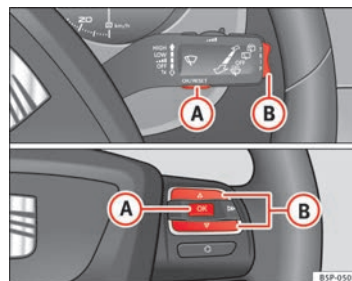

Fig. 42 Rocker buttons A and B. Steering wheel controls.
You can switch between the following displays in the multifunction display (MFI) by operating rocker switch ⇒ Fig. 42 (B) on the window wiper lever. ►